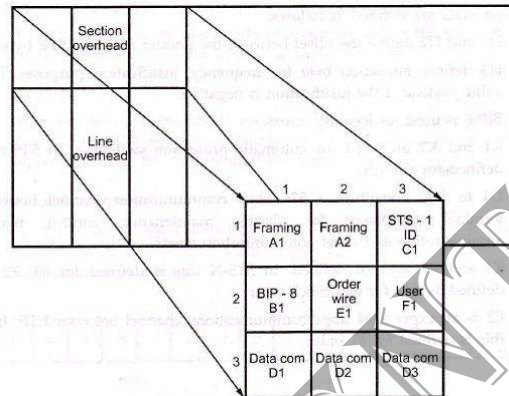

Fig. 8.4.12 STS-1 section overhead
- x Fig. 8.4.12 shows STS-1 section overhead.